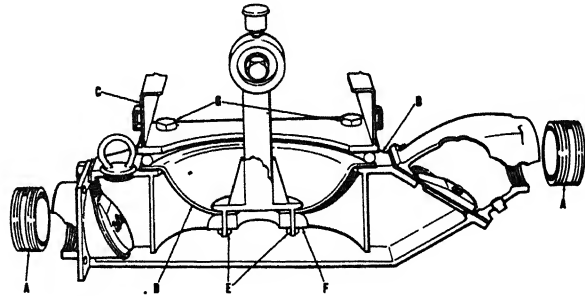

FIGURE 4
Thread the 4" close nipples into the inlet and outlet valves. Nipples (A) must be tight with no air leaks. (Reference Fig. 4)
18. Changing The Diaphragm (Fig. 4)
- A. With the pump body (B) drained, turn the engine starting pulley until the connecting rod is in its lowest position.
- B. Remove four bolts and nuts (G) holding pump body to the frame (C).
Reference for Fig. 4